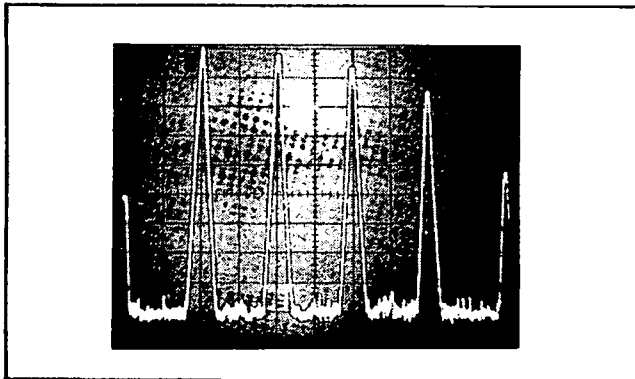

Figure 5-1. 10 kHz CAL Signal.
b. The 10 kHz CAL signal and its harmonics should be repetitively swept and appear on the display as shown by Figure 5-1. The separation between the Zero Response and 50 kHz harmonic should be 10 major divisions $\pm$ 1 minor division. The separation between any two adjacent responses should be 2 major divisions $\pm$.2 minor divisions. Momentarily push and release **DISPLAY - STORE**, watching the display to verify that the **STORE** and **NON-STORE** traces appear in the same position.